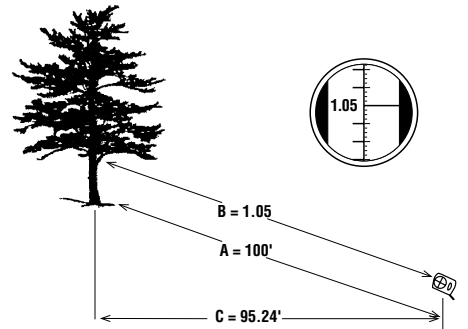

Figure 3
To find an unknown horizontal distance (C), divide the measured slope distance (A) by the secant value of the slope (B). This example: 100 ft. ÷ 1.05 = 95.24 ft. (horizontal distance). (See Figure 3.)